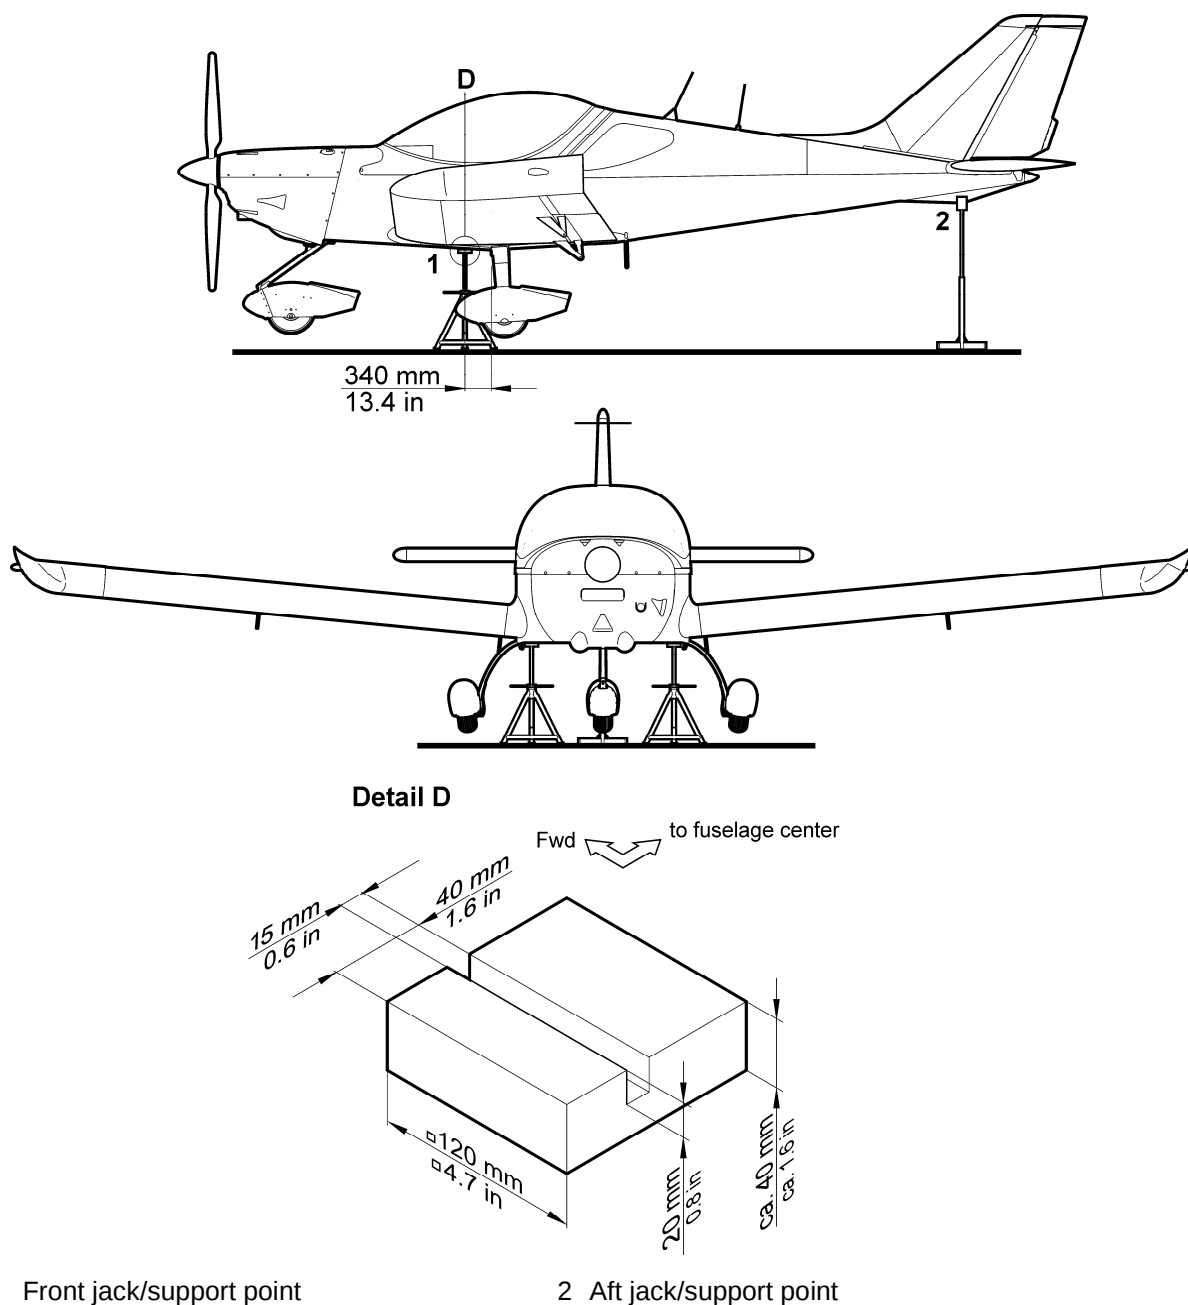

Fig. 14-1: The airplane jack/support points
There are two supporting points (see Fig.14-1). Front point (1) is positioned on main spar of the wing center section. Aft point (2) is positioned on the tail skid.
For the front supports make two bedplates (e.g. from hardwood) according Fig. 14-1.